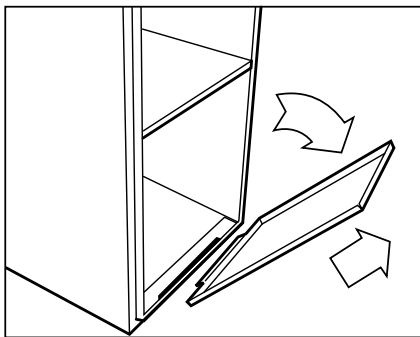

Fig. 10 - Blower Access Panel
- b. Remove blower access panel. (See Fig. 10.)